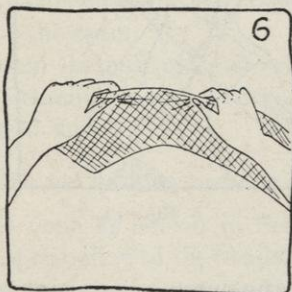

FIG. 6.
- b. Stretch one edge of the bias circular (see Figure 6).